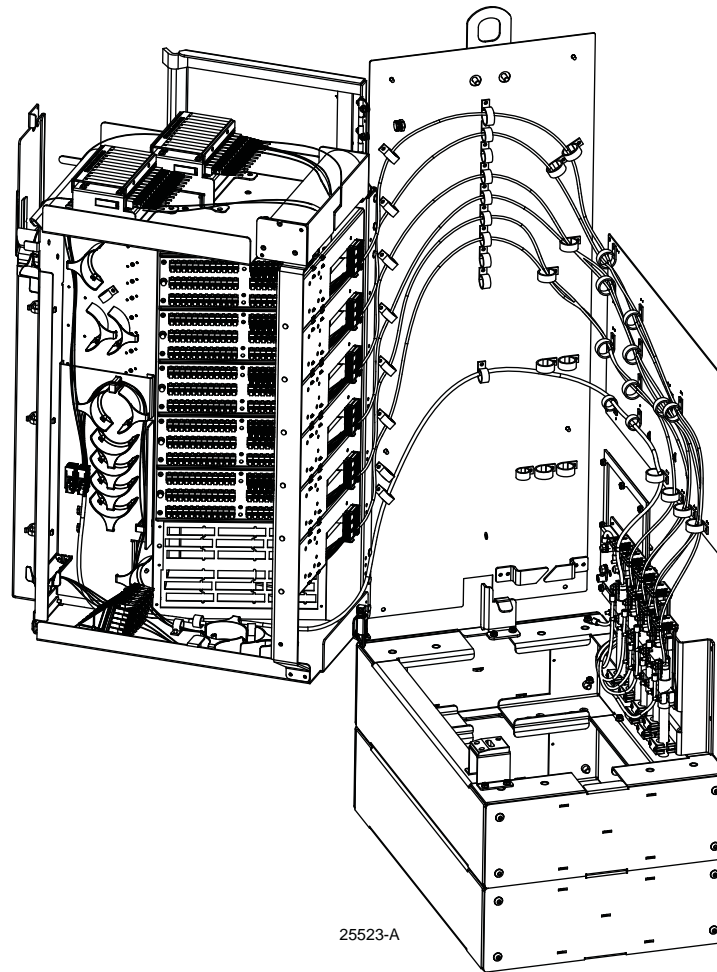

Figure 24. Route and Secure Distribution Cable Subunits
11. Route and secure the distribution cable subunit fibers to the back of cabinet as shown in Figure 24.